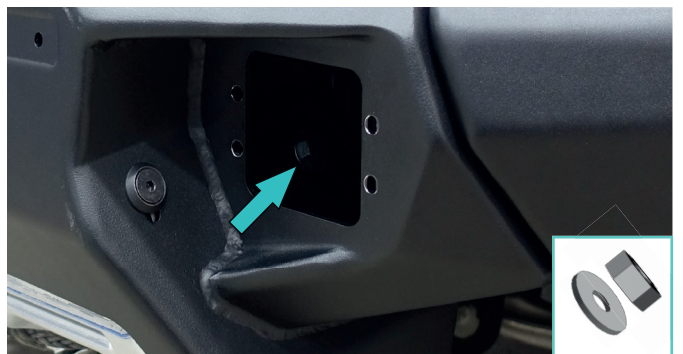

Fig.61
58. Install nut M10 with penny washer 10 (item H, O) on both sides of the bumper (fig.61).